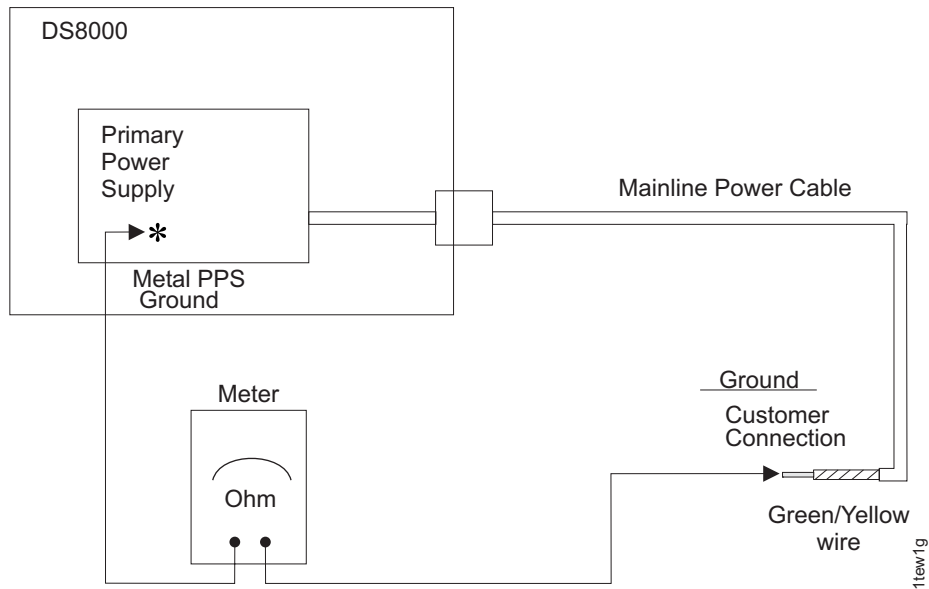

Figure 77. Prepare multimeter to measure ohm resistance
6. Prepare the multimeter to measure 0.1 ohm or less resistance. Place one lead of the multimeter on the green and yellow wire at the customer end of each mainline power cable. Place the other lead on the conductive metal of each PPS enclosure. Refer to Figure 77 on page 92.